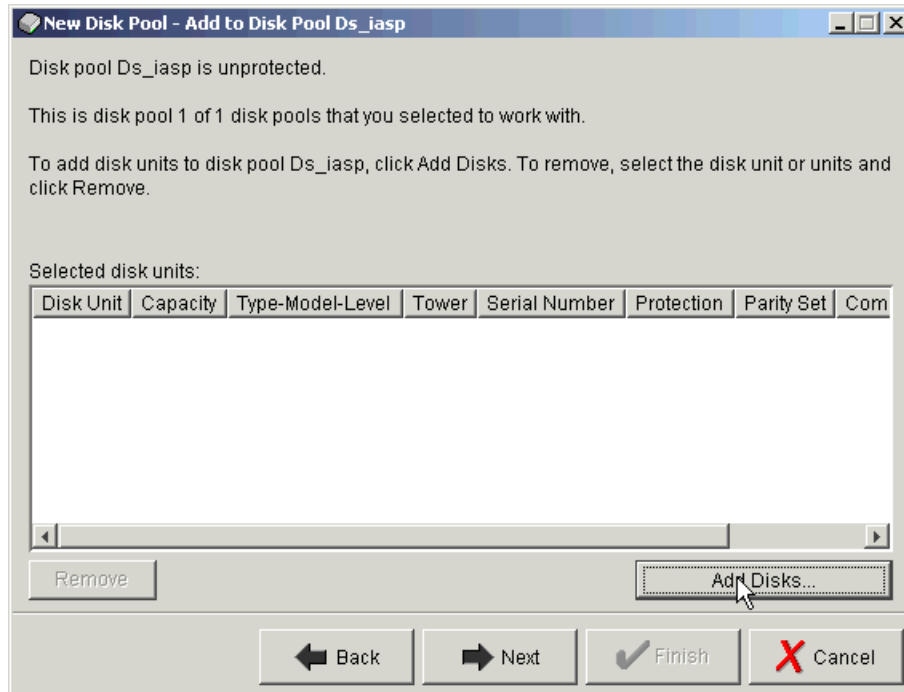

Figure B-14 Add disks to Disk Pool
- Now you need to add disks to the new disk pool. On the Add to disk pool screen, click the **Add disks** button as shown in Figure B-14 on page 339.